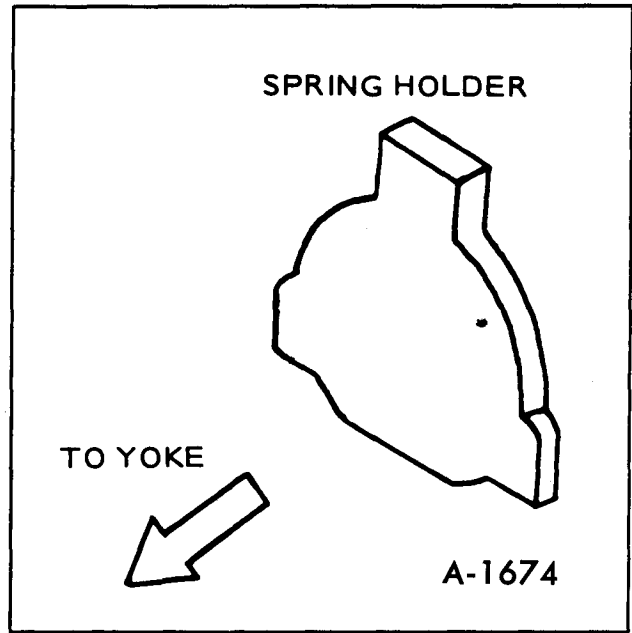

Figure 79—Spring Holder
5. Place the lever spring and the spring holder into the front bracket in the direction shown in Figure 79.